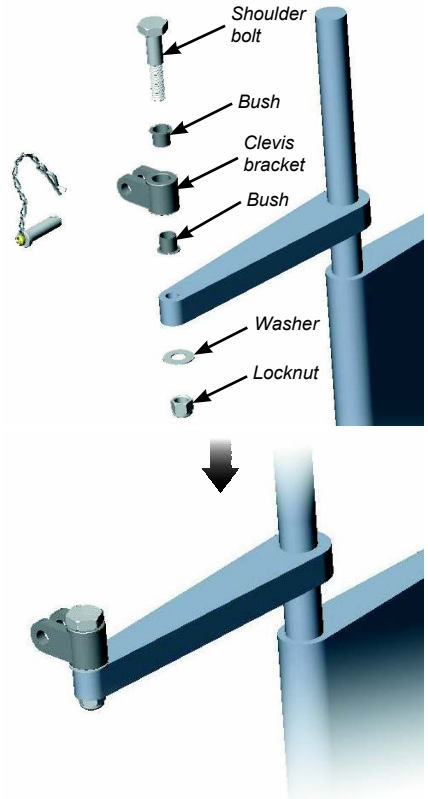

Fig B41 - Fitting the clevis bracket to the tiller
- ii) Fit the clevis bracket to the tiller as shown in Fig B41, ensuring that the plastic bushes, bracket, washer etc are fitted in the correct order.